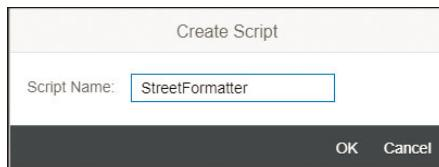

Figure 9.4 Providing a Name for the UDF
7. Specify a name for the UDF to be created (see Figure 9.4).